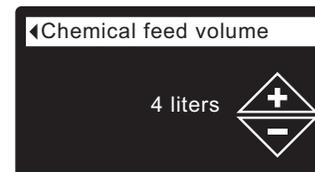

FIG. 94
7. Press the SELECT (O) button to display the Chemical feed volume or Chemical feed timer menu (See Figures 94 & 95).